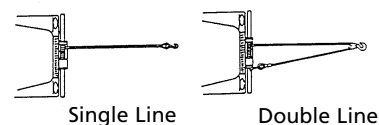

Figure 1
1. The X9 winch is rated at 9,000 pounds (4082 kg) (single line) capacity on the wire rope layer closest to the drum. **DO NOT OVERLOAD. DO NOT ATTEMPT PROLONGED PULLS AT HEAVY LOADS.** Do not maintain power to the winch if the motor stalls. Overloads can damage the winch and/or the wire rope and create unsafe operating conditions. **FOR LOADS OVER 6,000 POUNDS (2721 KG), WE RECOMMEND THE USE OF THE OPTIONAL PULLEY BLOCK TO DOUBLE LINE THE WIRE ROPE** (Figures 1 & 15). This reduces the load on the winch and the strain on the wire rope by approximately 50%. If attaching back to vehicle, attach to the frame or other load bearing part. **The vehicle engine should be running during winch operation to minimize battery**